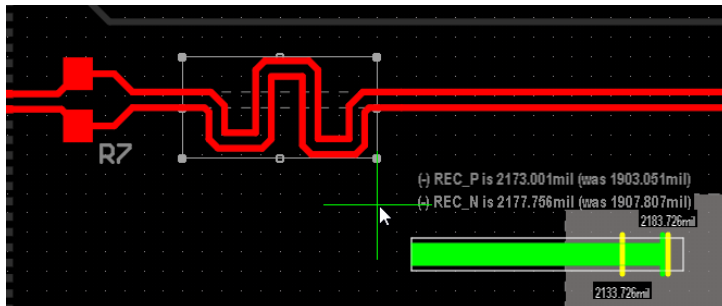

Figure 5. Length Gauge turns green when within tolerance
- 23. Accordions will be added by moving the mouse along the differential pair route until the length tuning gauge turns green. The gauge can be enabled or disabled using **Shift+G** during the tuning process as shown in Figure 5.